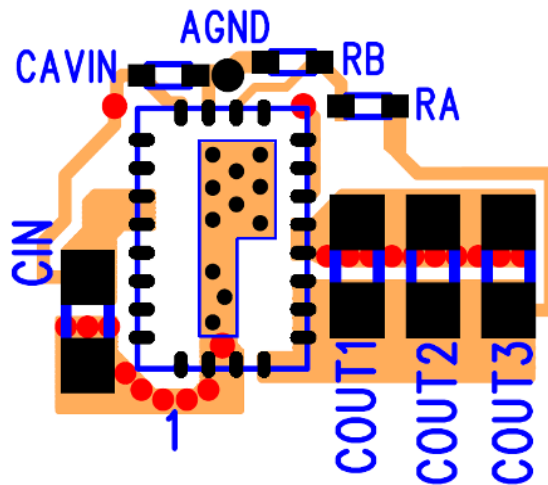

Figure 8. Optimized Layout Recommendations
**Recommendation 5:** AVIN is the power supply for the small-signal control circuits. It should be connected to the input voltage at a quiet point. In Figure 8 this connection is made at the input capacitor. Connect a 1 $\mu$ F capacitor from the AVIN pin to AGND.
**Recommendation 8:** Keep  $R_A$ ,  $R_B$  close to the VFB pin (See Figures 8). The VFB pin is a high-impedance, sensitive node. Keep the trace to this pin as short as possible. Whenever possible, connect  $R_B$  directly to the AGND pin instead of going through the GND plane.
Only the two large thermal pads and the perimeter leads are to be mechanically/electrically connected to the PCB through a SMT soldering process. All other exposed metal is to remain free of any interconnection to the PCB. Figure 8 shows the recommended PCB metal layout for the EN5322QI package. A GND pad with a solder mask "bridge" to separate into two pads and 24 signal pads are to be used to match the metal on the package. The PCB should be clear of any other metal, including traces, vias, etc., under the package to avoid electrical shorting.